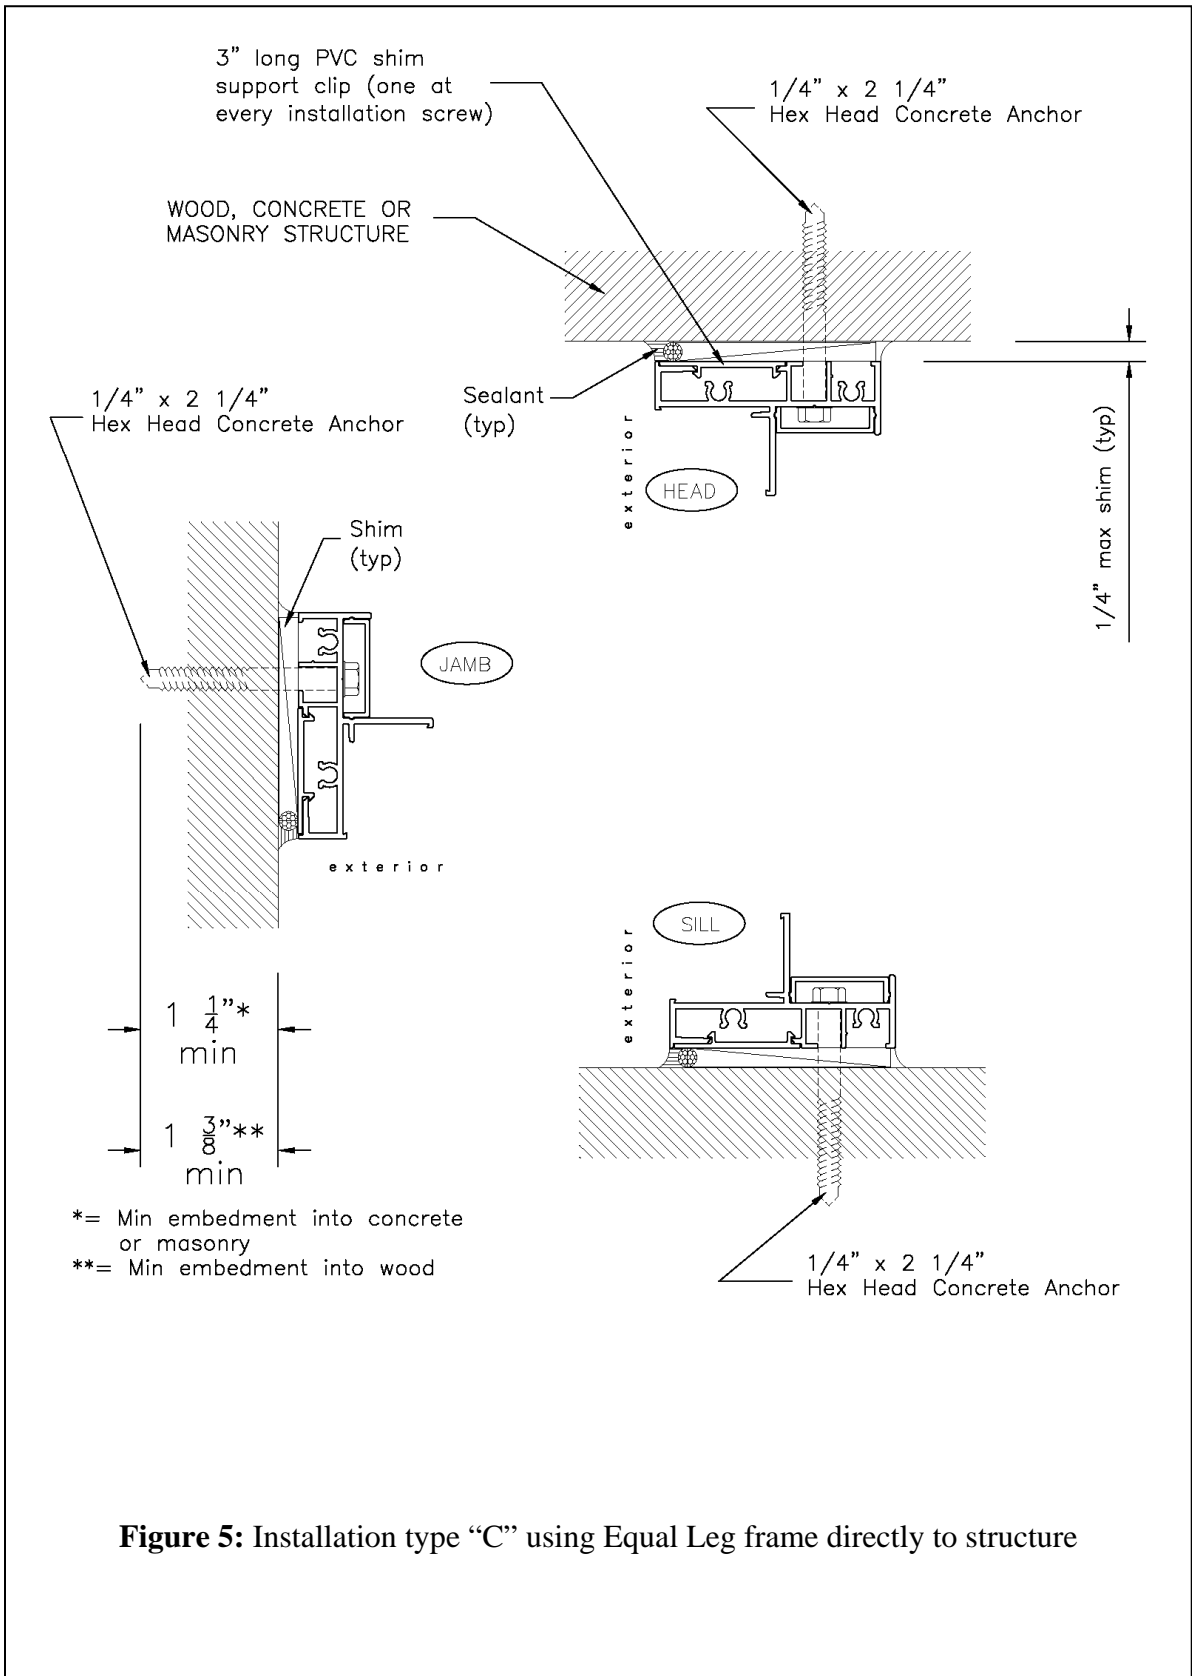

**Figure 3: Installation type "A" using 1 x bucks**
Page 8:	Figure 3: Installation type “A”
**for Flange or Equal Leg (Flush) Frame Windows (Refer to Figures 3, 4, & 5)**
2. If wood bucks are being used, make sure they are of the correct size and type for the installation method being used (*see figures 3 and 4 - Installations Types A and B*). The bucks must be properly bed in sealant and securely attached to structure. Wood bucks should not be separated at corners. Verify that wood bucks are plumb, level and square. Note that Installation Type C (Equal/Flush Leg) does not require a wood buck.
6. Temporarily secure window frame using installation screws as selected from the Miami-Dade County Product Approvals for your specific application (*see figures 3 – 5*). To simplify the pre-installation process, you may want to use a smaller temporary screw such as a #12 Sheet Metal Screw and only penetrate the wood. Shim every installation screw snugly (shim space should not exceed ¼”). Temporarily secure the window with a few screws per side. **DO NOT OVERTIGHTEN THE SCREWS.** Make sure window is plumb, level and square. **Caution: Any window, which is forced into an opening and racked or twisted, can eventually cause glass breakage.**
Window attachment to structure	Based on installation type used. Refer to figures 3 through 6 in these instructions for the minimum screw size recommended in installations type A, B, C, or D. Also, refer to approval documents.